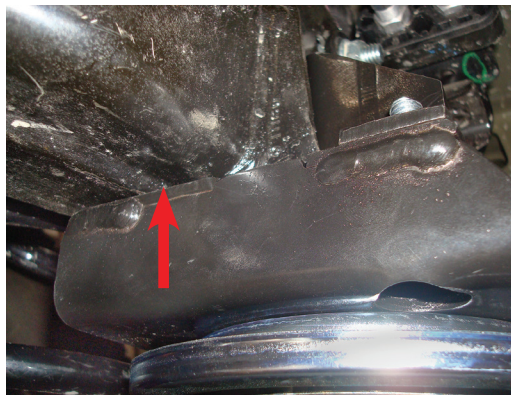
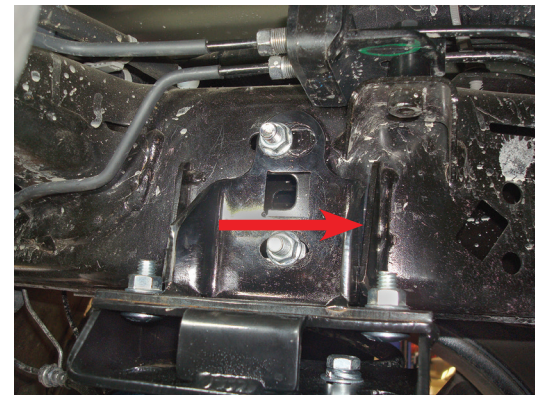

fig. D.20
fig. D.21
8. Making sure that the upper brackets are flat to the frame (Fig. D.20). Push the upper assembly forward as far as it can go until the upper brace butts against the jounce bumper bracket that was left on the frame (Fig. D.21). Torque the frame brace hardware first, then the upper bracket to brace hardware to 31 lb.-ft. (42Nm).